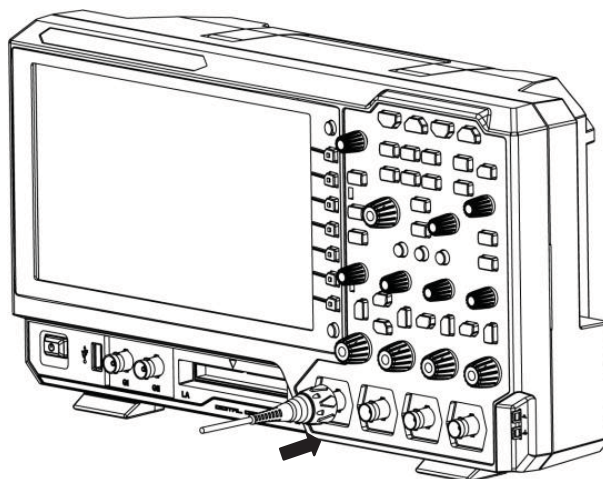

Figure 1-5 To Connect the Passive Probe
1. Connect the BNC terminal of the probe to an analog channel input terminal of the oscilloscope on the front panel, as shown in Figure 1-5.